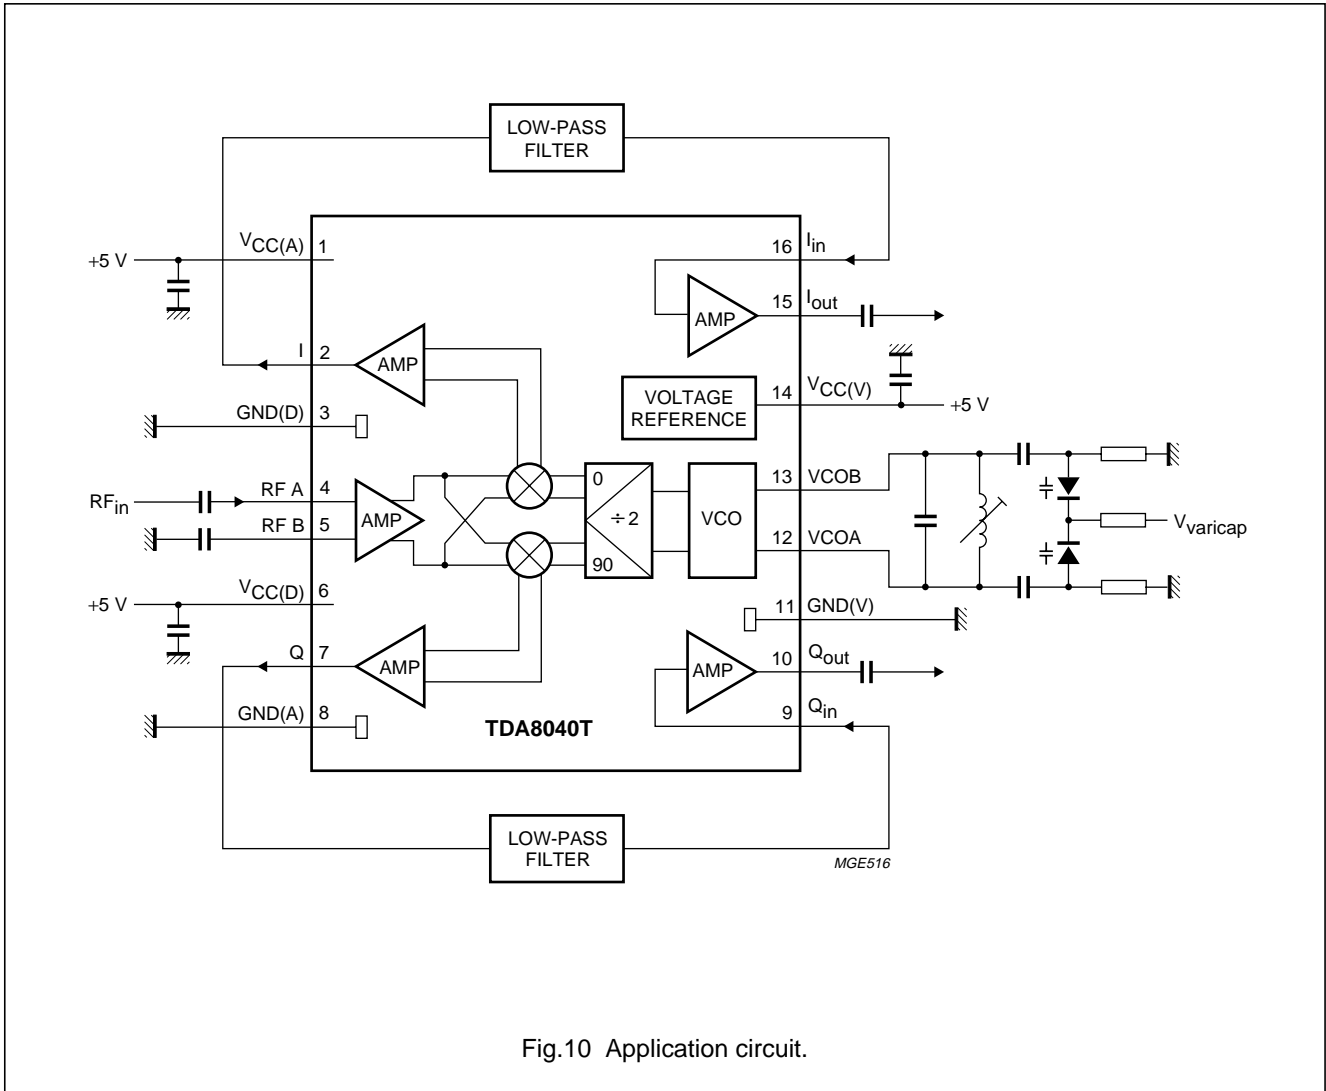

Fig.10 Application circuit.
$V_{CC(A)} = V_{CC(D)} = V_{CC(V)} = 5\text{ V}$ ;  $f_{i(RF)} = 70\text{ MHz}$ ;  $f_{i(VCO)} = 140\text{ MHz}$ ;  $V_{i(RF)} = 67\text{ dB}\mu\text{V}$ ;  $T_{amb} = 25\text{ }^\circ\text{C}$ ; measured in application circuit of Fig.10; unless otherwise specified.
8. The temperature for the VCO frequency drift is defined for  $\Delta T_{\text{amb}} = 25$  °C. It is measured in the application circuit of Fig.10 with the following component values for the tank circuit: